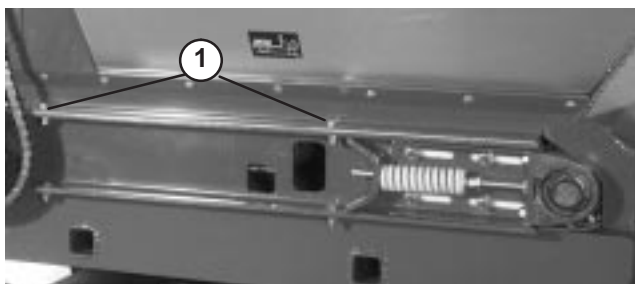

Figure 27
- 4. Remove (2) capscrews, washers and nut, on each side of machine, securing hopper to slider bed (Fig. 27).